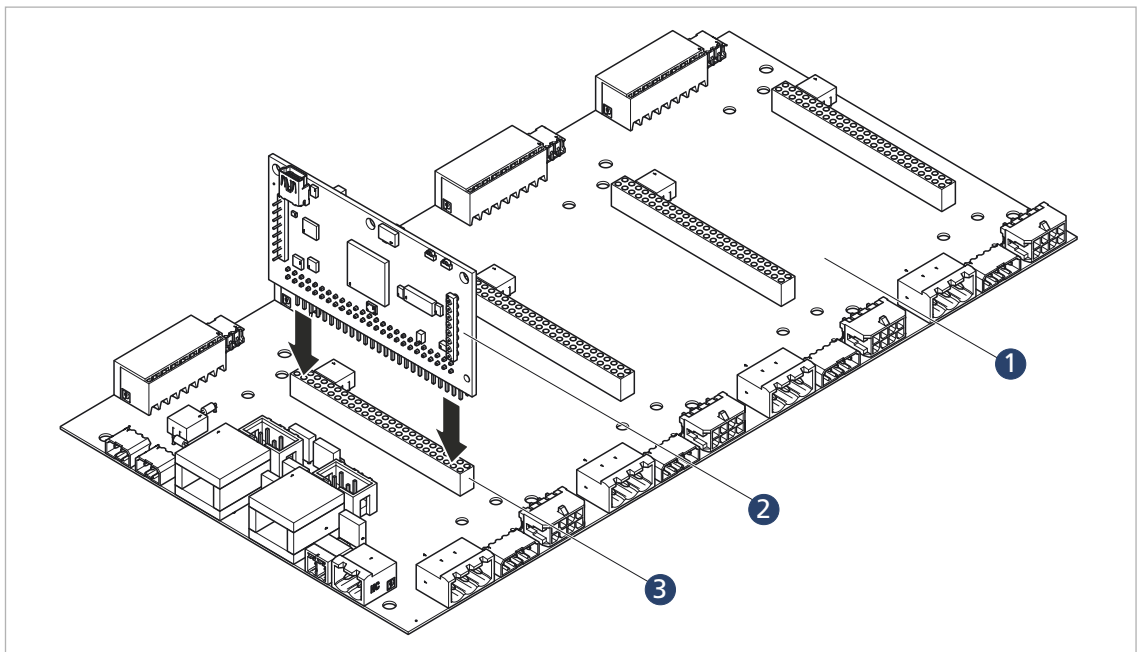

Fig. 10: Installation of a Motion Controller PCB
- ▶ Note orientation of the Motion Controller PCB acc. to Fig. 10.
- ▶ Connect the Motion Controller PCB (2) to the motherboard (1) using the plug connection (3).